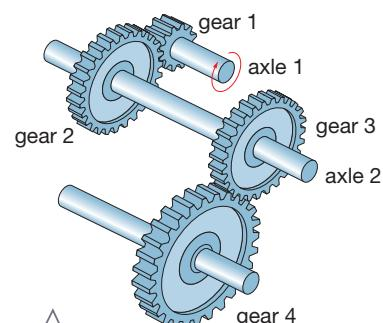

Figure 8.4.4
- 11 Analyse the combination of gears shown in Figure 8.4.4.